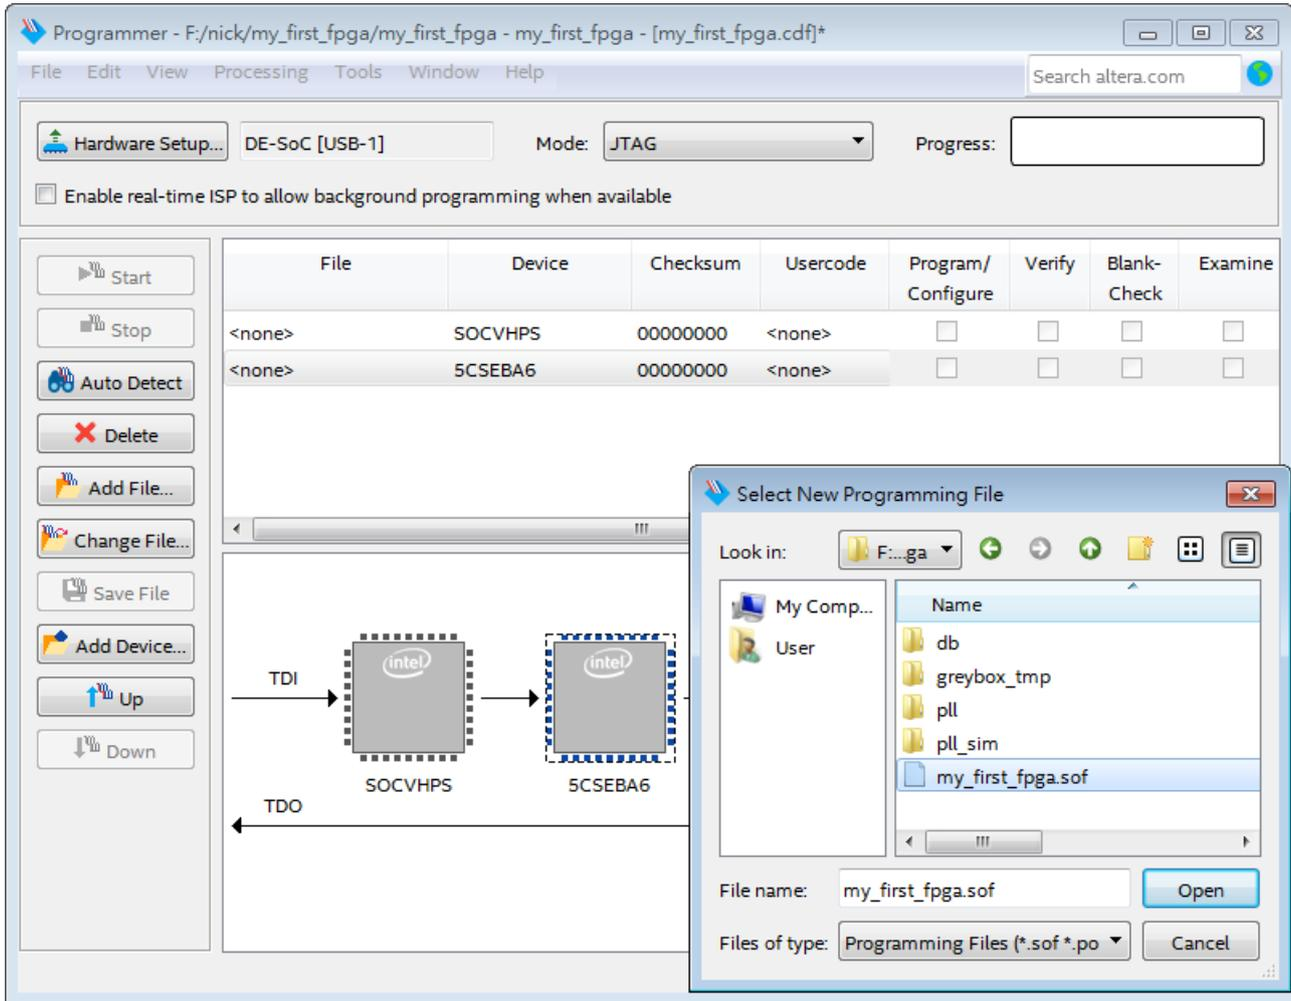
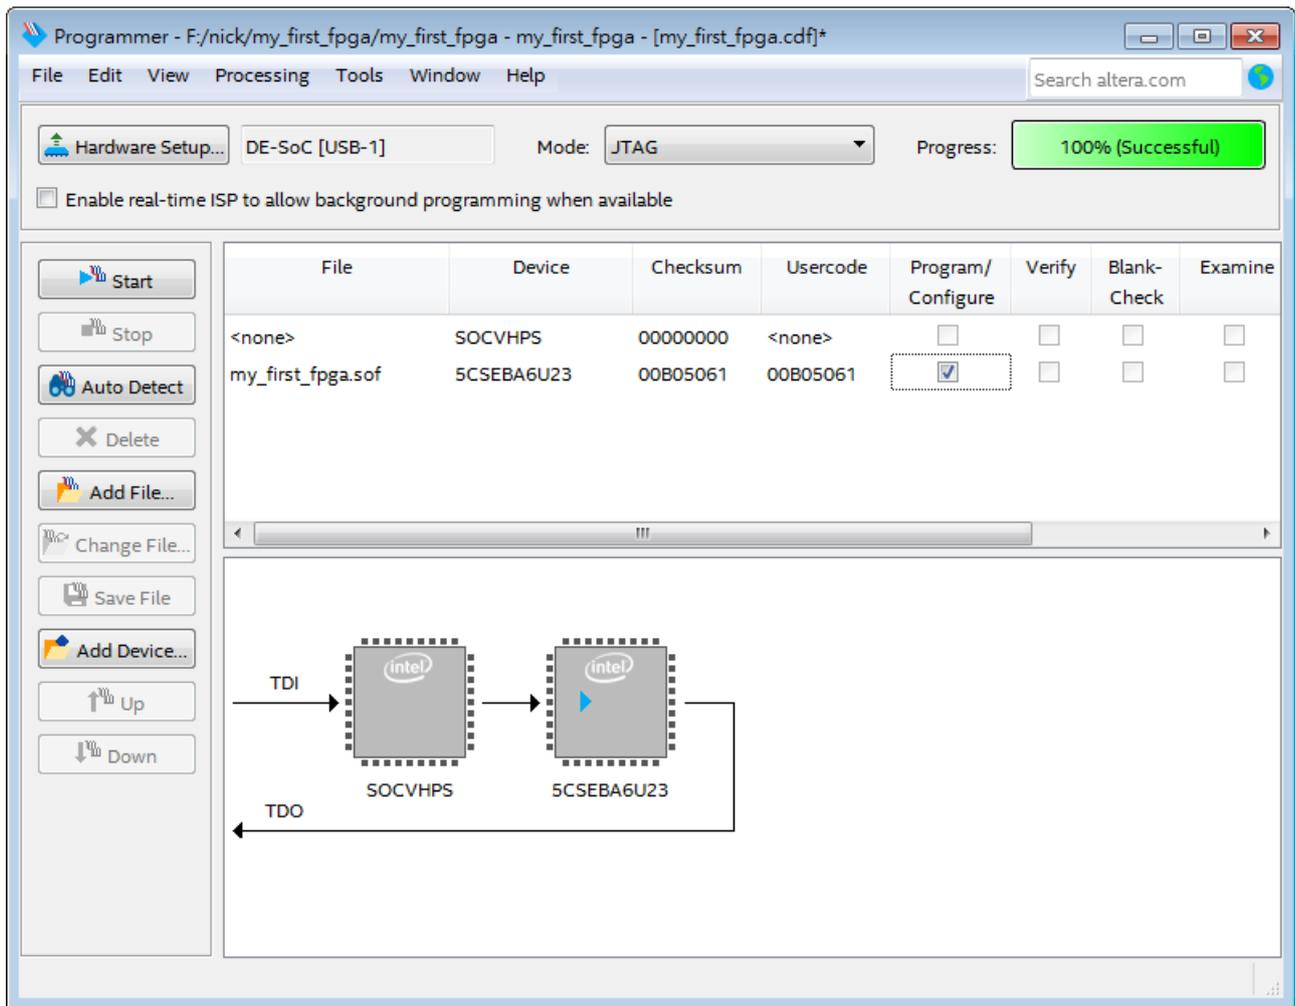

Figure 4-8 Selecting my_first_fpga.sof file.
Figure 4-9 Downloading Complete
9. Selecting the my_first_fpga.sof file from the project directory (see Figure 4-8), select to Program/Configure and click Start to program .sof file into FPGA. Please see Figure 4-9.